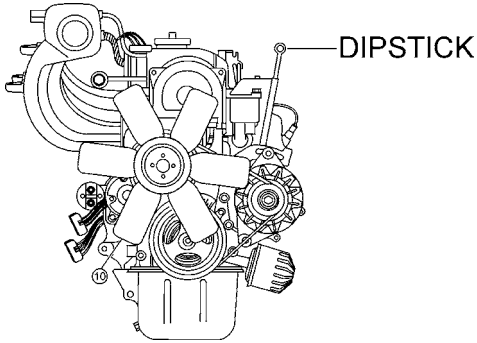

Figure 8. Engine Oil Dipstick Removal
2. Pull the engine oil dipstick from its holder and wipe it clean (Figure 8).